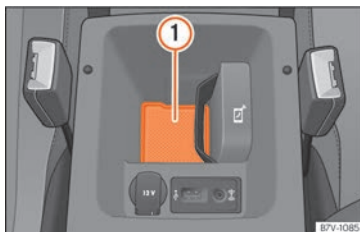

Fig. 232 The phone holder used for connecting the mobile phone to the car aerial is located in the front centre armrest.
For the connection to the aerial of the vehicle, the mobile phone must be on the lodging surface »» **Fig. 232** ①.